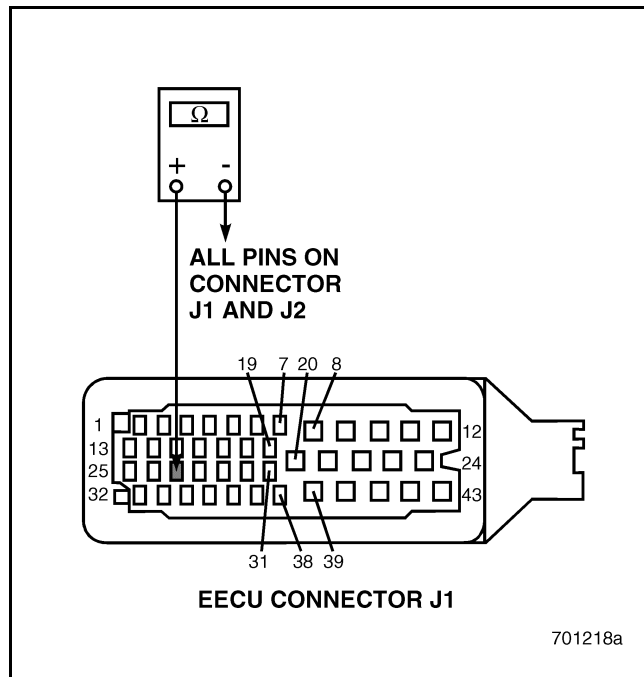

Figure 204
4. Check for continuity between EECU harness connector J1 pin 27 and all other pins on EECU connectors J1 and J2 (see Figure 204).